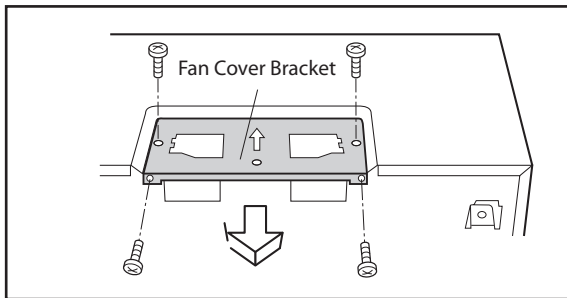

Figure 13
1. Remove and save the 4 screws from the Fan Cover Bracket. Remove Fan Cover Bracket by sliding it in the opposite direction of the arrow on the Fan Cover Bracket as shown in Figure 13.